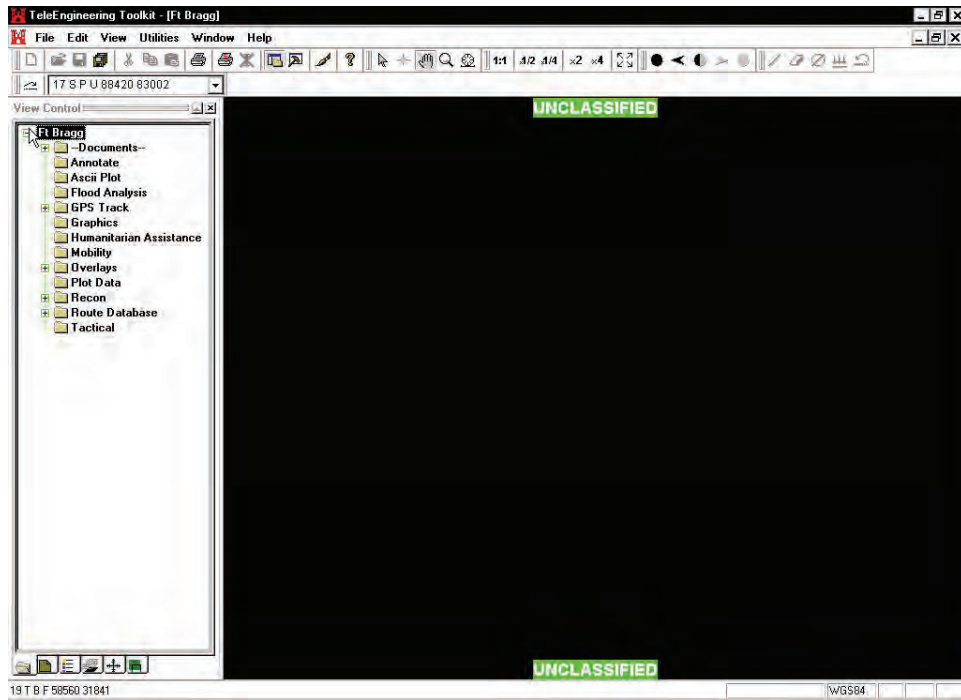

Figure 38. Toolkit window with project components expanded
2. Expand project components by clicking on the “+” sign to the left of the project name in the “View Control Window” (Figure 38).